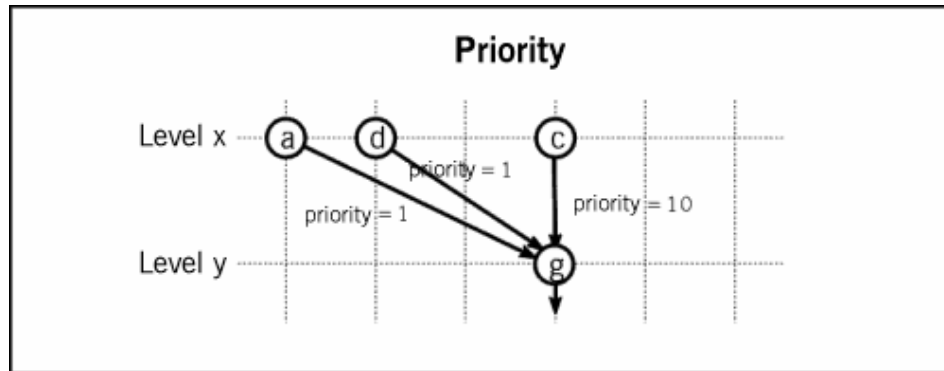

Figure 144: Schematic representation - Priority
- Priority:** By providing an integer value n for this parameter you can specify how important an instance of this relation class is in comparison with instances of other relation classes. When arranging the objects within a model it is more likely that two objects joined with this relation will be horizontal or parallel with each other (see fig. 144, p. 175). E.g. objects, which are joined by a relation of high priority are more likely to be positioned above or beside each other.